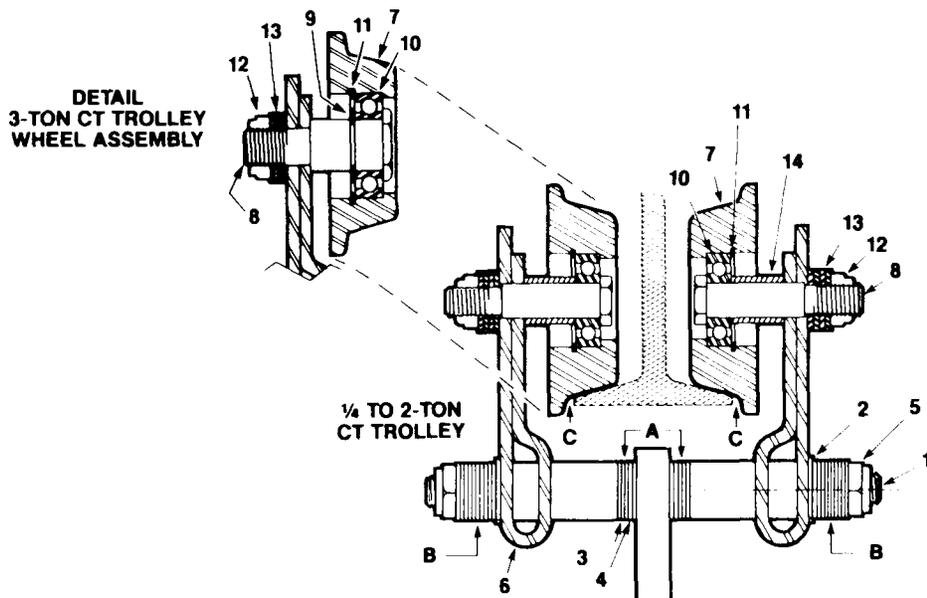

FIGURE 2-1. COFFING CT TROLLEY
- c. See Figure 2-1 for instructions on adjusting lug-mounted plain trolleys.
a. **"I"-Beam Adjustment.** Adjustment for "I" beam sizes and tolerances is accomplished by locating the spacer washers as shown in Figure 2-1. Normal placement of washers is given in Table 2-2. Refer to Table 2-1 for identification of part names and numbers.